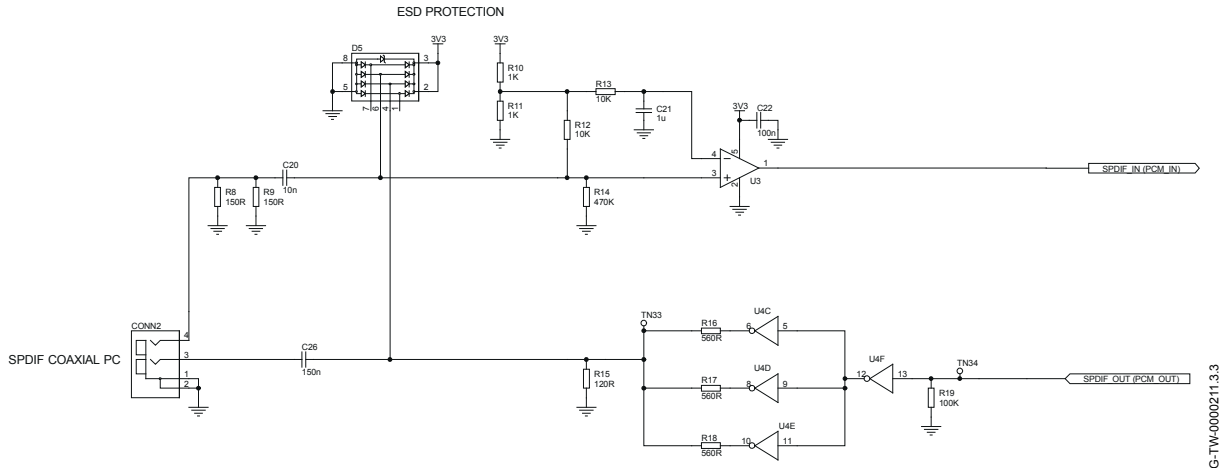

Figure 10.4: Example Circuit for SPDIF Interface (Co-axial)
- A 75Ω coaxial cable with an RCA connector, see Figure 10.4